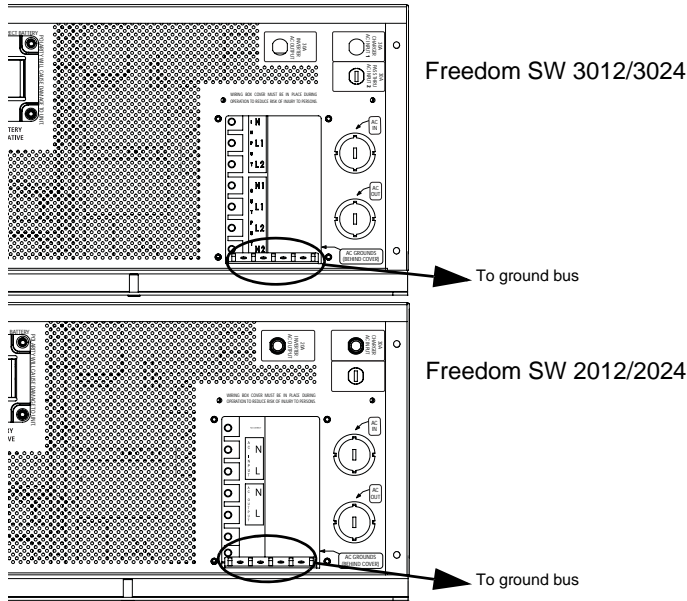

Figure 7 AC Wiring Compartment
AC Wiring Compartment For your reference, the AC wiring compartment is shown in Figure 7 on page 27.
Figure 7 shows the wiring compartment, which contains a grounding bus (used to wire the AC input and output ground wires) and a terminal block (used to wire the AC input and AC output connections).
8. Connect the line and neutral wires to the input terminals (labeled AC Input) on the terminal block, Figure 7 on page 27).
10. Connect the ground wires to a free position on the ground bus, Figure 7 on page 27. If solid ground wire is being used, the wire can be connected directly under the screw heads. If stranded ground wire is being used, ring terminals must also be used.
5. Connect the line and neutral wires to the output terminals (labeled AC Output on the terminal block, Figure 7 on page 27) as follows:
7. Connect the ground wires to a free position on the ground bus, Figure 7 on page 27. If solid ground wire is being used, the wire can be connected directly under the screw heads. If stranded ground wire is being used, ring terminals must also be used.